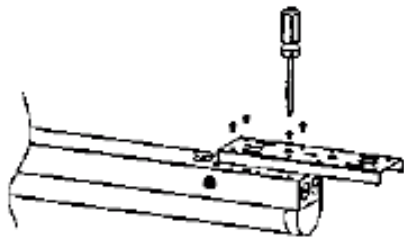
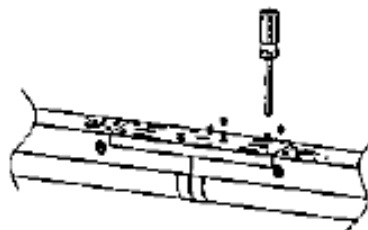

Figure 9
Figure 10
Step 1: Use the screws in the accessory kit to lock the bracket onto one lamp (Figure 9). Step 2: Align the other lamp to the bracket and lock the screws (Figure 10).